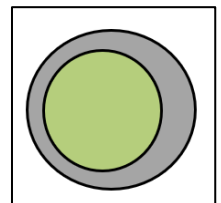

Fig. 2-13 - Concentricity
- Potential for non-concentricity in the rod / sheath. Less control over concentricity, requires thicker sheath to compensate. Cross section may look egg shaped, like shown in Fig. 2-13
This process is very different from the first 2 molding processes. The rubber is extruded onto the core rod, using 4 injection ports from 4 equally spaced quadrants. This assures that the rod is concentric to the OD of the sheath that is being formed. This is a unique benefit to the extrusion process, unlike the previous molding processes where unbalanced injection and uncontrolled rod position may cause rod bowing, and that egg shaped concentricity shown in Fig. 2-13. The other main difference in the extruded process is the cure time and curing cycle. The raw silicone formulation used in extrusion is designed to cure immediately upon extrusion onto the core rod.